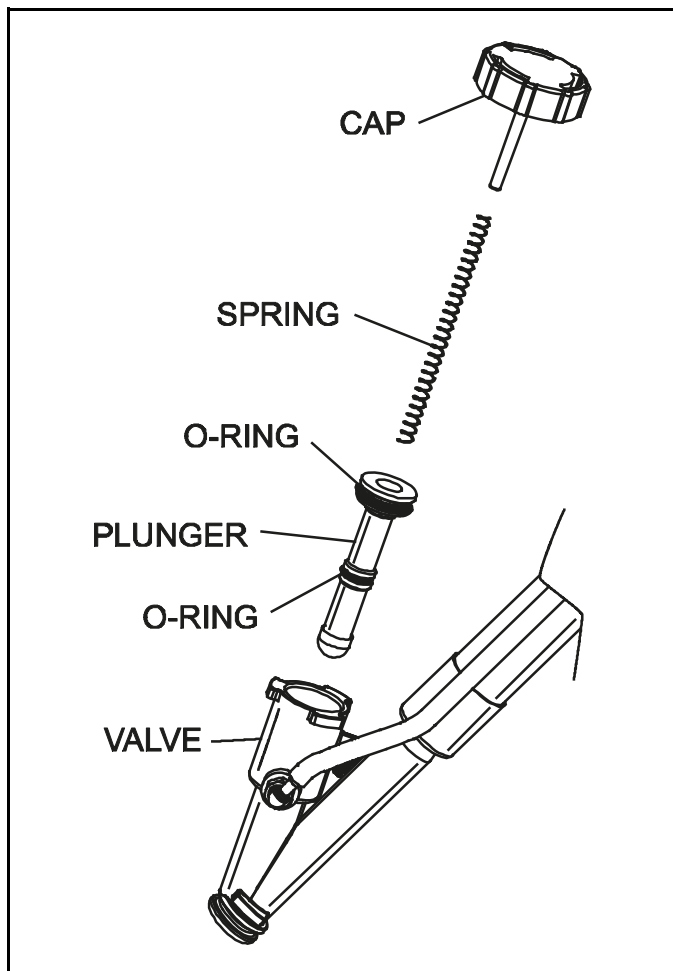

Figure 6-76
9. Disassemble the syrup valve. To remove the syrup valve cap, push down and turn counterclockwise. Push the valve plunger out of the syrup valve. (See Figure 6-76.)